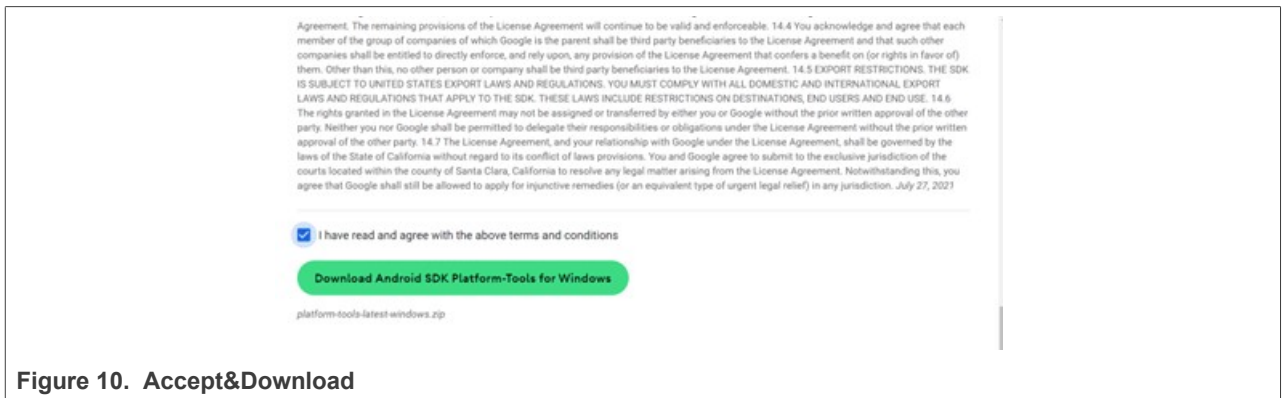

Figure 10. Accept&Download
2. Accept the terms and conditions and click the download button (see Figure 10).